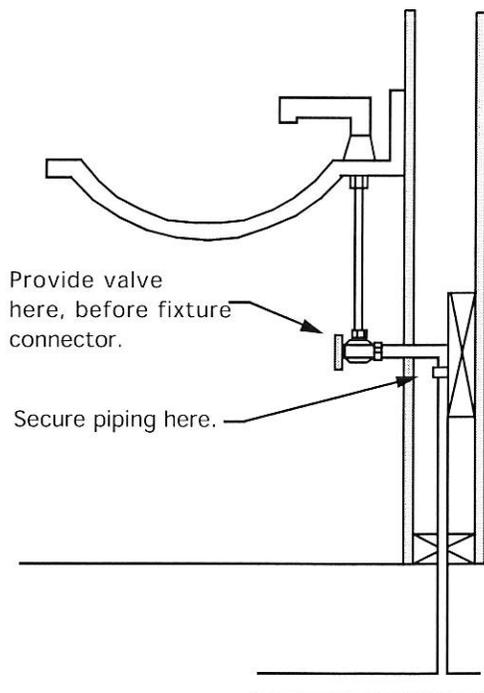

Figure 2
4. The final connection of fixtures is often made with light gage malleable metal tubing or plastic fixture supply lines. Provide control valves at each fixture immediately ahead of any slip joint, nonmetallic fixture supply or appliance supply. See figure 2.